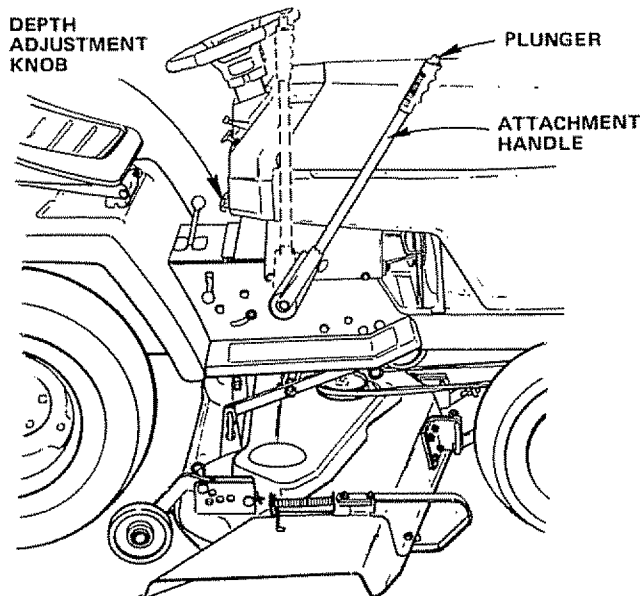

FIGURE 25
12. Use Attachment Handle to lower mower into cutting position. Start mowing at slow speed and increase ground speed by increasing throttle as conditions will permit. Average cutting height is approximately 2 - 1/2 to 2 - 3/4 inches. Height of cut can be adjusted by means of the Depth Adjustment Knob (Fig. 25). Turn Depth Adjustment Knob (clockwise (↻) or counterclockwise (↺) to match pre-selected Lift Control Lever mowing height.